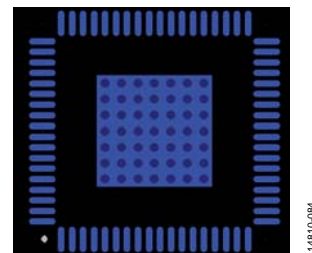

Figure 88. Exposed Pad Layout Example—Top View
- Place vias such that all layers of copper are connected, allowing for efficient heat and energy conductivity. For an example, see Figure 88, which shows 49 vias arranged in a 7  $\times$  7 grid in the pad area.